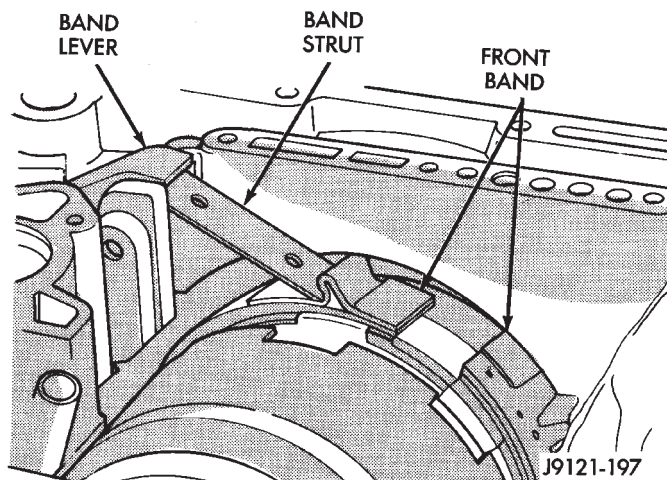
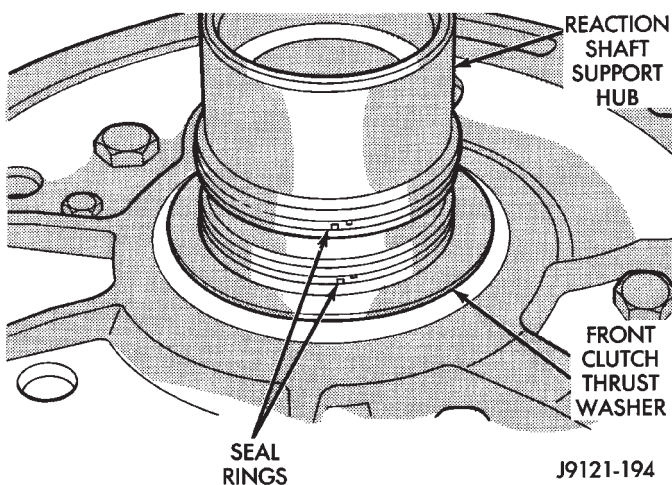

Fig. 161 Front Band Linkage Installation
Fig. 162 Reaction Shaft Support Seal Rings And Front Clutch Thrust Washer Position
(29) Install front band lever, strut and adjusting screw (Fig. 161).
(30) Push front band lever shaft completely into place. Then tighten band adjusting screw until band just grips clutch retainer. Verify that front/rear clutches are still seated before continuing.
(31) Coat band reaction pin access plug with sealer and install plug in converter housing.
(32) Check seal rings on reaction shaft support hub. Verify that seal rings are hooked together and that front clutch thrust washer is properly positioned (Fig. 162). Use extra petroleum jelly to hold thrust washer in place if necessary.